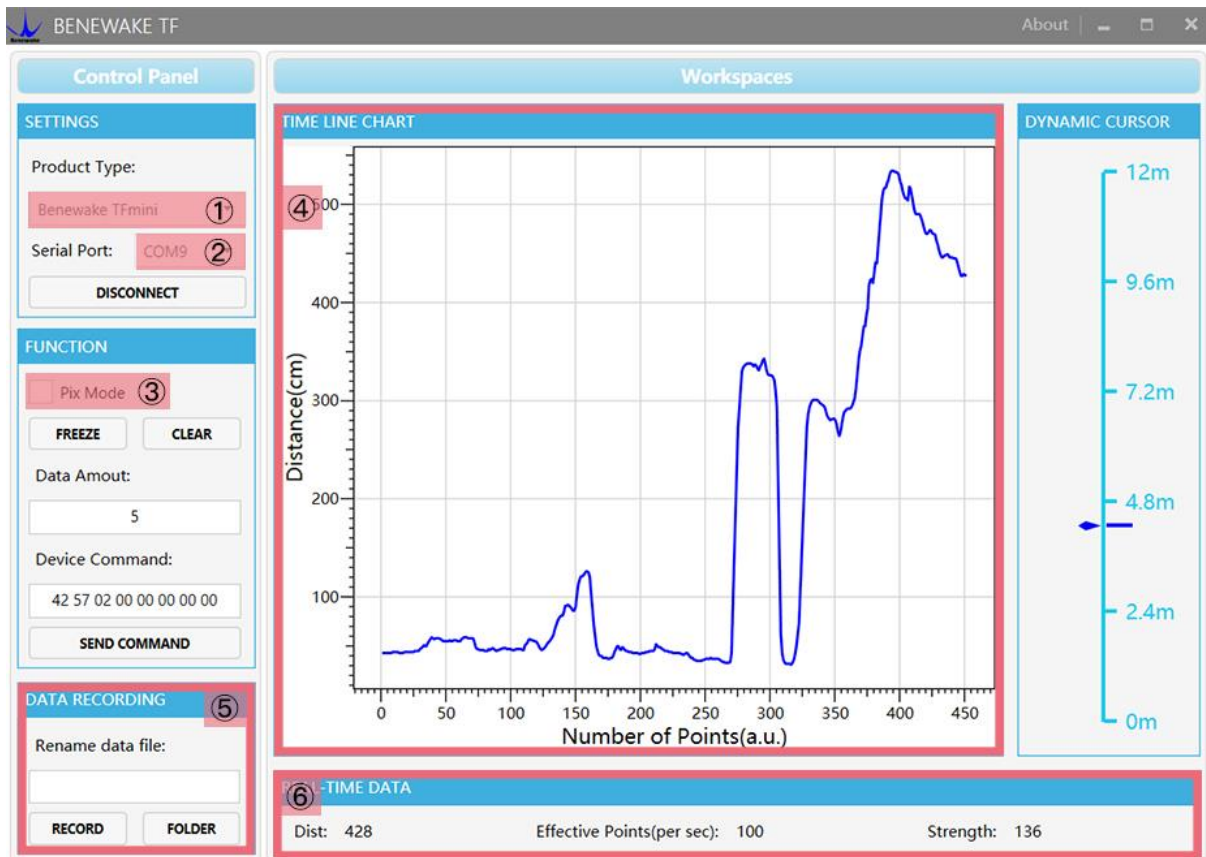

Figure 3: PC software Interface and Display
port (here it is “② COM9”), as shown in Figure 3.
- ⑤ Then click “CONNECT”. Upon successful connection, The continuous images of the output data will be displayed in area “④ TIME LINE CHART” on the right. Besides, the real-time data of the Current measure distance (Dist), effective data points per second (Effective Points) and signal strength (Strength) will be displayed in area “⑥ REAL TIME DATA” below.